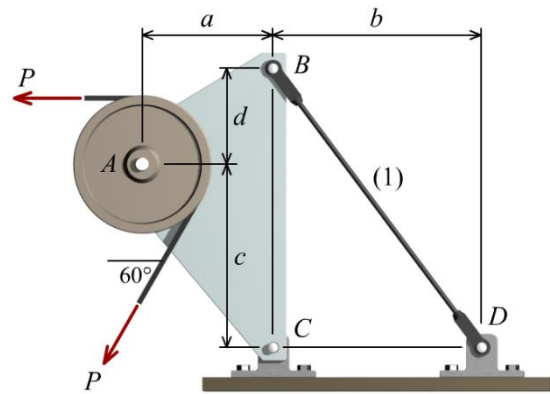

FIGURE P1.8
P1.8 Determine the normal stress in rod (1) for the mechanism shown in Figure P1.8. The diameter of rod (1) is 8 mm, and load $P = 2,300$ N. Use the following dimensions: $a = 120$ mm, $b = 200$ mm, $c = 170$ mm, and $d = 90$ mm.